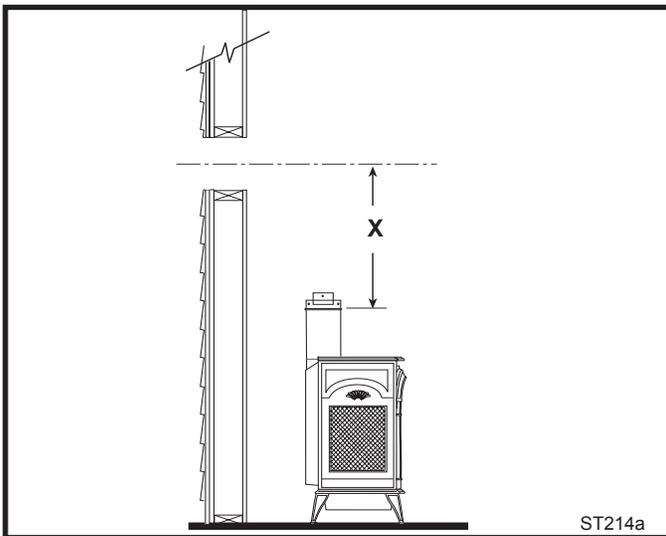

Fig. 25 Determine the vertical pipe length.
4. **For MHSC Vent Pipe only:** If necessary, measure to determine the vertical length (X) of pipe required from the adapter pipe to the wall cutout centerline, including a 2" overlap at the joint. (Fig. 25) use a hacksaw or tin snips to trim the pipe as needed.